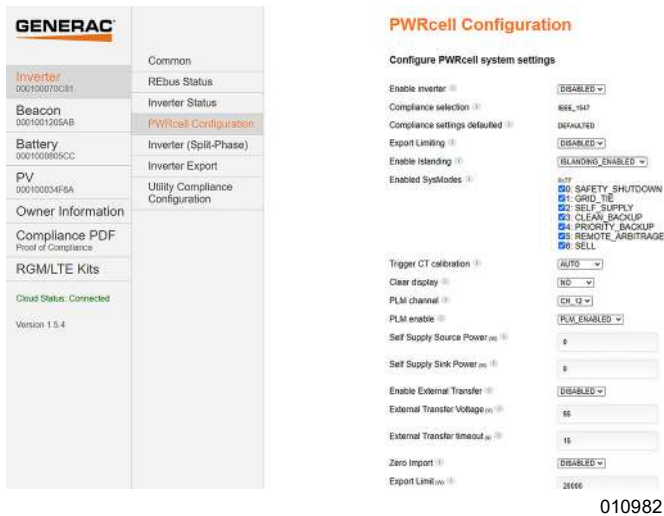

Figure 6-26. PWRcell Configuration
3. See Figure 6-26. To adjust a setting, click on it, select the desired change, and click Submit. Any changes selected to be made, will not be implemented unless Submit is selected at the end.